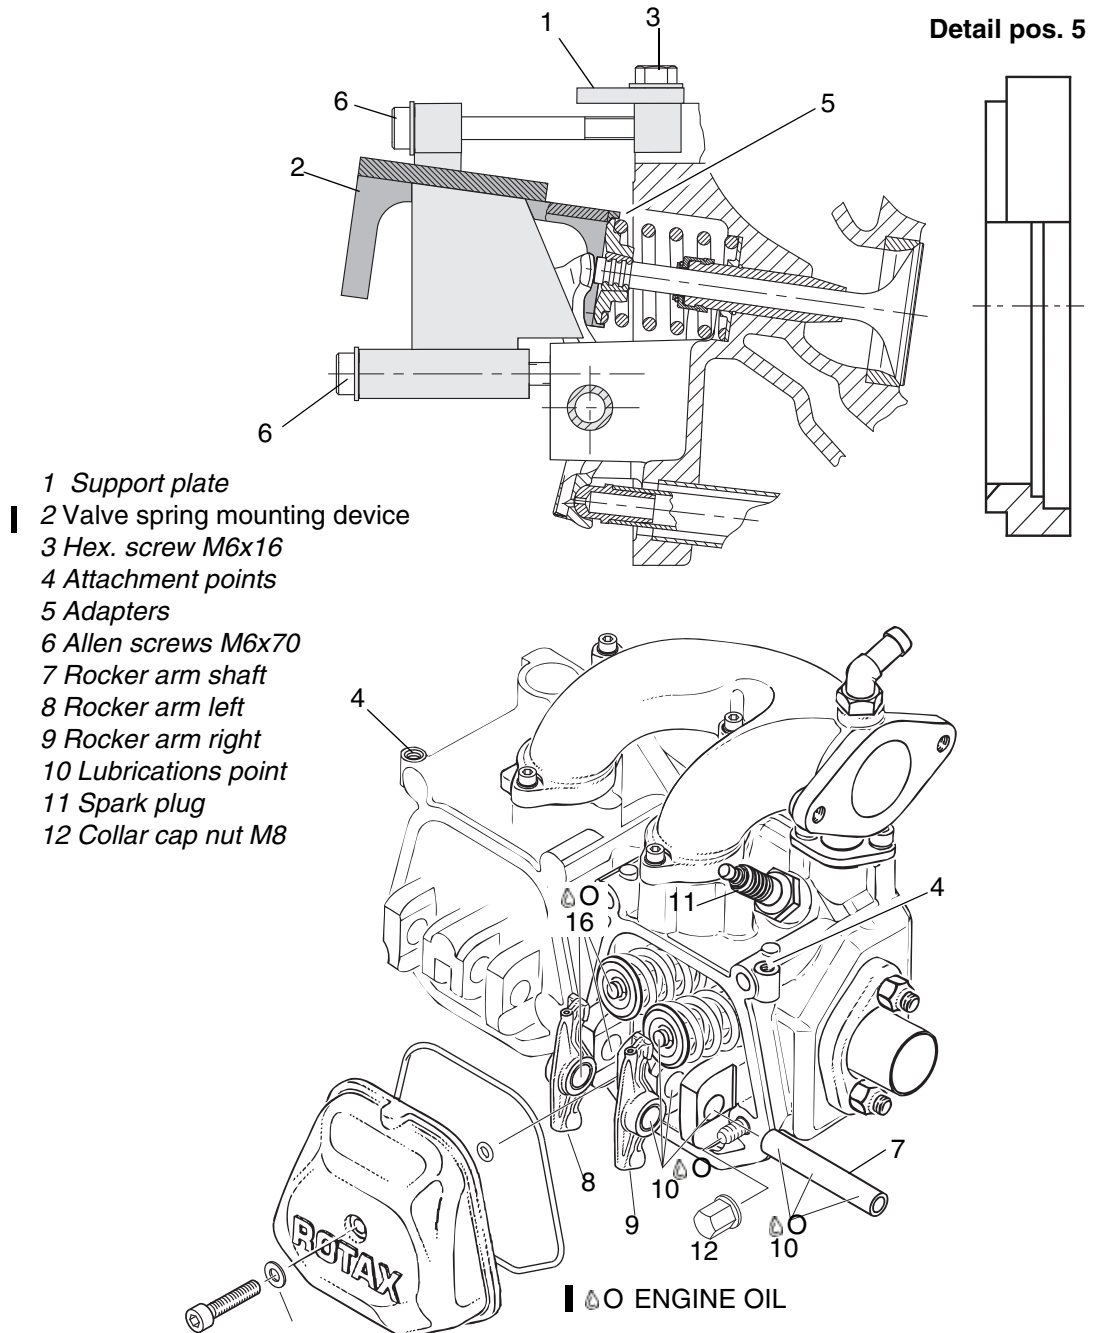
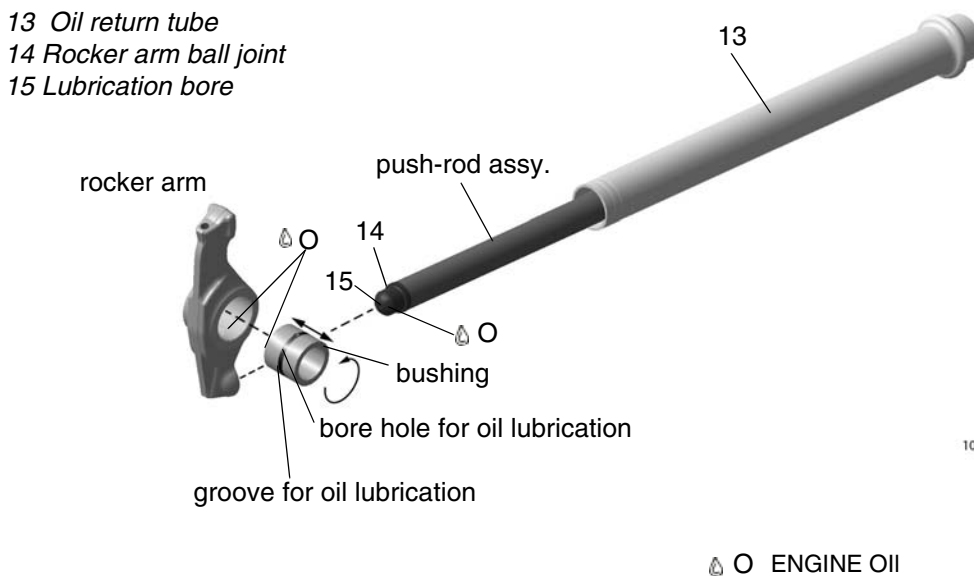

Fig. 4
Fig. 5
See Fig. 4 and Fig. 5.
7	Replace only affected parts as per section 2.3). See also Fig. 5 .
6	Refit the wiring and top spark plug (Fig. 4, pos. 11) as follows: - If genuine ROTAX® spark plugs installed: tighten the spark plugs to 16 Nm (142 in. lb.) on a cold engine. - If the old spark plug version NGK is still used: tighten to 20 Nm (15 ft.lb) or change all spark plugs to genuine ROTAX® spark plugs according to SI-912 i-013/SI-912-027/SI-914-028. Install spark plug connector according to marking sleeve.